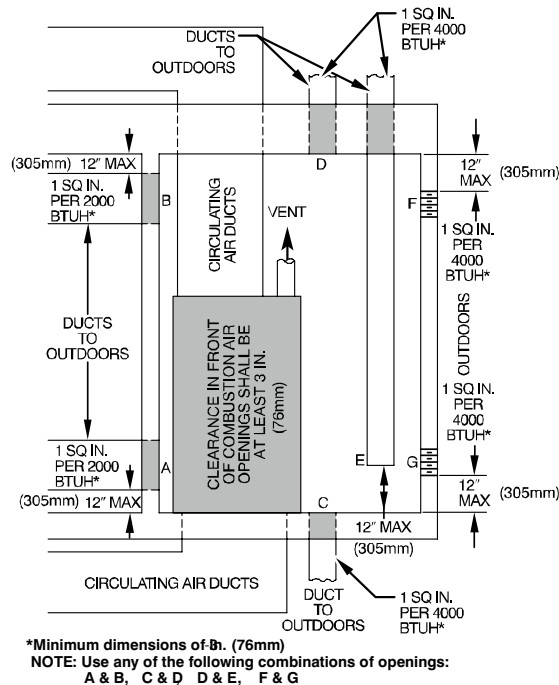

Fig. 6 – Air for Combustion, Ventilation, and Dilution for Outdoors ^{L12F012}
2. **Fig. 6** illustrates how to provide TWO OUTDOOR OPENINGS, one inlet and one outlet combustion and ventilation air opening, to the outdoors.
- b. Size openings and ducts per **Fig. 6** and **Table 4**.
- c. TWO HORIZONTAL DUCTS require 1 sq. in. (645 sq. mm) of free area per 2,000 BTU/h (1,100 mm²/kW) of combined input for all gas appliances in the space per **Fig. 6** and **Table 4**.
- d. TWO OPENINGS OR VERTICAL DUCTS require 1 sq. in. (645 sq. mm) of free area per 4,000 BTU/h (550 mm²/kW) for combined input of all gas appliances in the space per **Fig. 6** and **Table 4**.
- a. 1 sq. in. (645 sq. mm) of free area per 3,000 BTUh (734 mm²/kW) for combined input of all gas appliances in the space per Fig. 6 and Table 4.